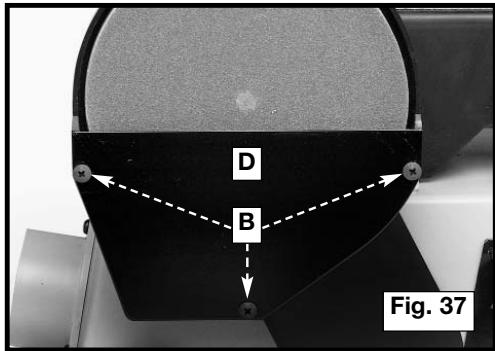

Fig. 37
2. Remove the three screws (B) Fig. 37. Remove the cover (D).